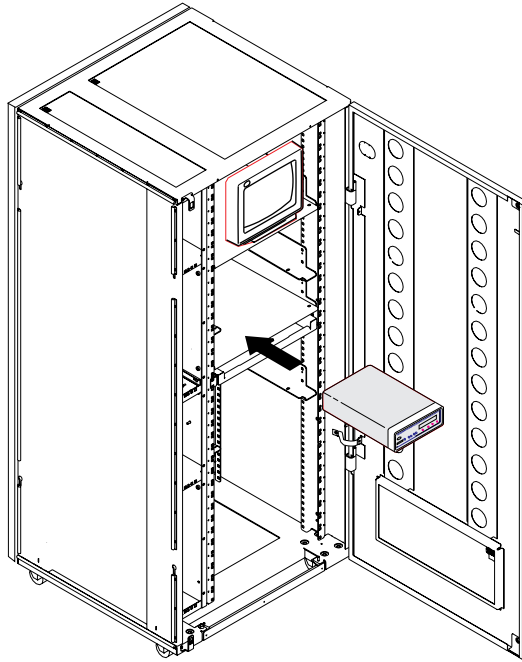

Figure 1-71. Installing the 7858 in the Controller Expansion
3. ____ Slide the 7858 in the controller expansion as shown in Figure 1-71 on page 1-63.